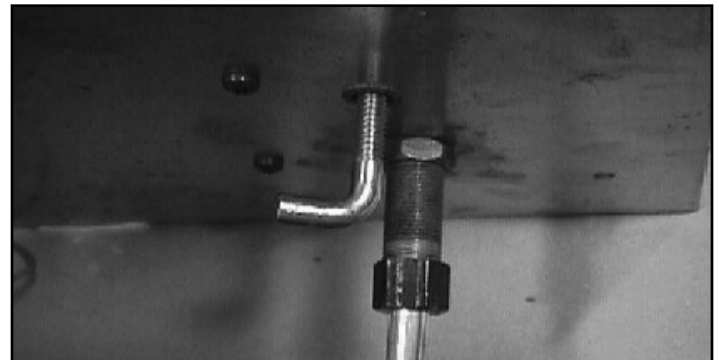

Figure 2.5 Air Shutter Adjustment (Caliber & Designer Series)
- Locate the wing nut underneath the firebox bottom. See Figure 2.5. To close the air shutter, turn the wing nut clockwise. To open the air shutter, turn the wing nut counterclockwise. The air shutter is used to fine-tune the flame as necessary for differences in altitude and vent configuration. The air shutter is shipped fully closed with natural gas appliances and fully open with LP appliances.